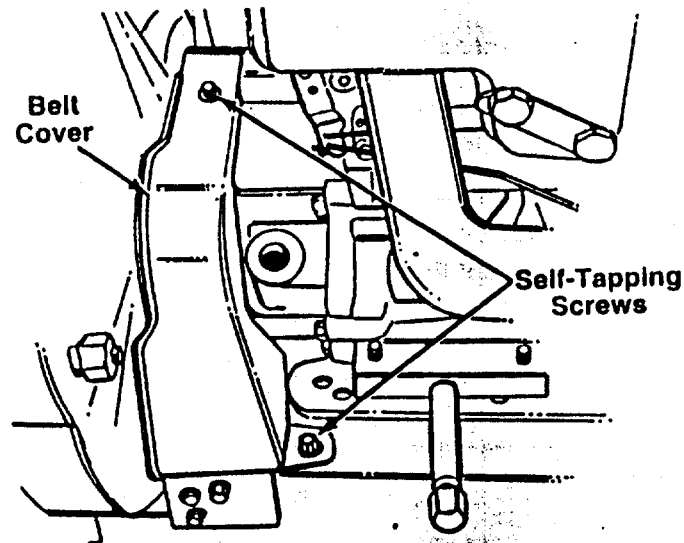

Fig. 3
4. Remove the belt cover on the front of the engine by removing the two self-tapping screws. See figure 3.